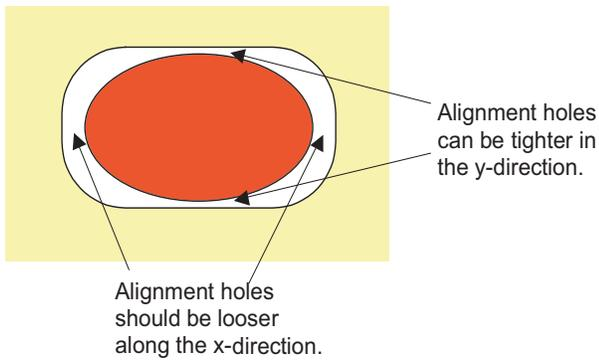

Figure 5. Alignment holes recommendation
- 5) The alignment fixture can only be used to align or tilt the LED in the y-direction perpendicular to the leads of the LED as shown in Figure 5. Tilting the LED in the x-direction might induce failure to the wire bond of the LED. As such, the alignment holes should be looser along the x-direction and can be tighter in the y-direction.